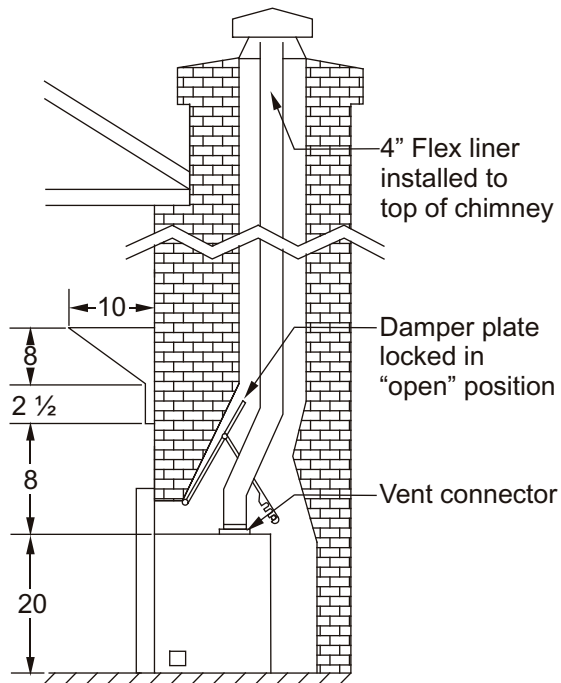
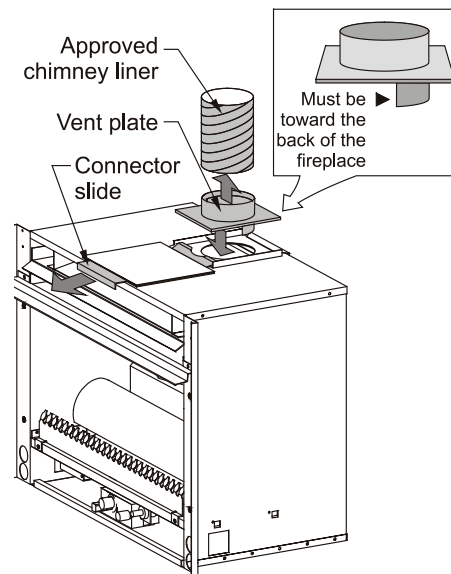

Figure 3. Installation requirements and mantle clearances.
Figure 4a. Connecting the chimney liner to the vent plate.
- Install flex liner or B-Vent inside the masonry chimney all the way to the top of the chimney cap. (See Figure 3.) Use the vent plate (supplied with the Hotshot) to connect the chimney liner to the insert. Slide the flex over the vent plate and attach with two sheet metal screws. Make sure the flange on the bottom of the vent plate is toward the back of the fireplace. See figure 4a.